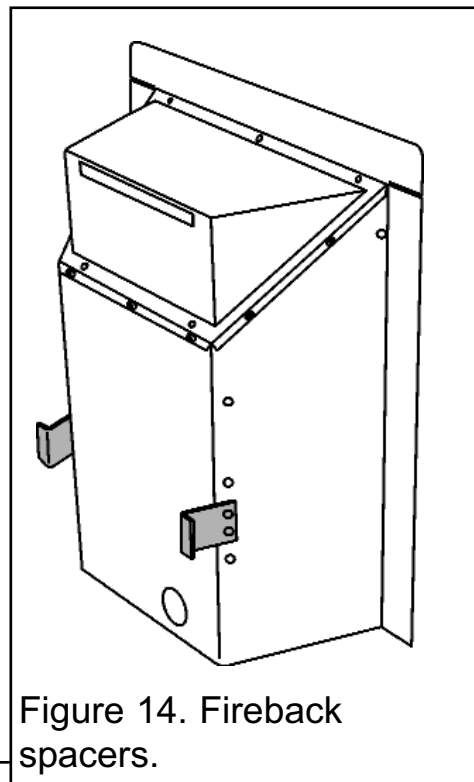

Figure 14. Fireback spacers.
8. The appliance is supplied with two fireback spacers that must be fitted in all installations. These should extend backwards to ensure sufficient clearance from the back of the fireplace. Position the fireback spacer as shown in figure 14. Secure the fireback spacers using the four tapping screws supplied with the fire.